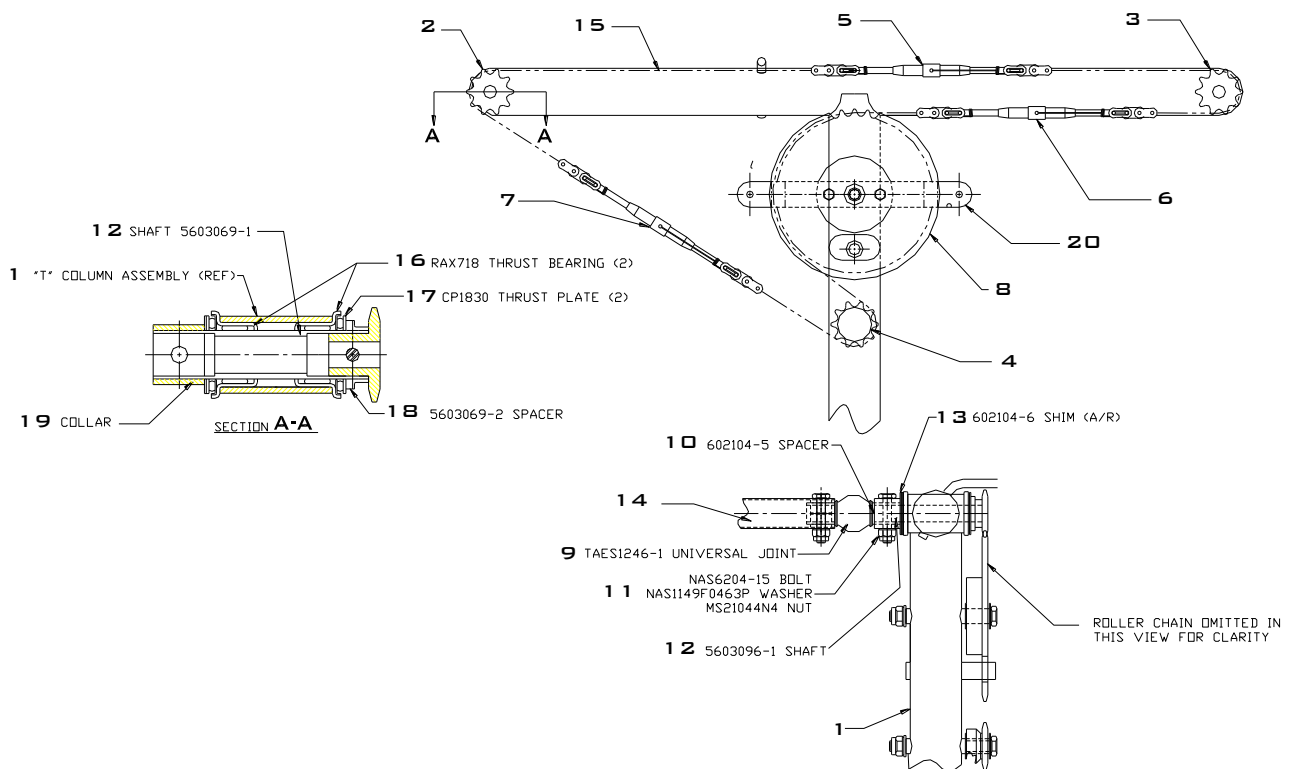

FIGURE 1
- (1) Disconnect the aircraft Battery/s
- (2) Remove the Pilot and Co-Pilot Seat.
- (3) Remove the Glare Shield.
B. Thrust Bearing Removal (Ref. Figure 1 and Tiger Aircraft AG-5B Maintenance Manual Chapter 27)
- (1) Loosen turnbuckle (5) and remove chain (15) from sprockets (2) and (3).
- (2) Remove nut, washer, and bolt (11) and remove spacer (10) then slide universal (9) aft until the universal is clear of the "T" column.
- (3) Grasp sprocket (3) and pull shaft (12) from control column (1). Shims (13) and thrust plate (17) will separate from the shaft.
- (4) Remove thrust plate (17) and spacer (10) from shaft (12).
- (5) Pull thrust bearings (16) from control column (1).
- (6) Repeat this procedure for the opposite side.
- (2) Inspect bearings for excessive wear, damage and freedom of movement. Replace if defective.
- (3) Use a clean lint free cloth saturated with mineral spirits to remove grease and foreign material from the bearing races.
- (4) Inspect the races for excessive wear or damage and replace if defective.
- (5) Pack the thrust bearings with MIL-PRF-81332 grease.
D. Reassemble “T” Column (Reference FIGURE 1)
- (1) Place spacers (10) and thrust plate (17) on shaft (12).
- (2) Install thrust bearings (16) in control column.
- (3) Slide shaft (12) through thrust bearings (16) and install thrust plate (17), shims (10), and collar (19) on shaft (12). Align holes in collar (19) and shaft (12).
- (4) Place spacers (10) in end of universal (9) such that holes align, then insert universal (9) into the end of shaft (12).
- (5) Align holes in universal (9) and shaft (12) and secure with bolt, washers, and nuts (11). Torque to standard value per Chapter 91 of the AG-5B Maintenance Manual.
- (6) Use a clean, lint-free cloth saturated with mineral spirits to wipe all foreign material from the chain and sprockets.
- (7) Lubricate the chain with a light coat of MIL-PRF-81332 grease.
- (8) Install and align chain (15) as follows:
- (b) Position bellcrank (20) so that it is horizontal.